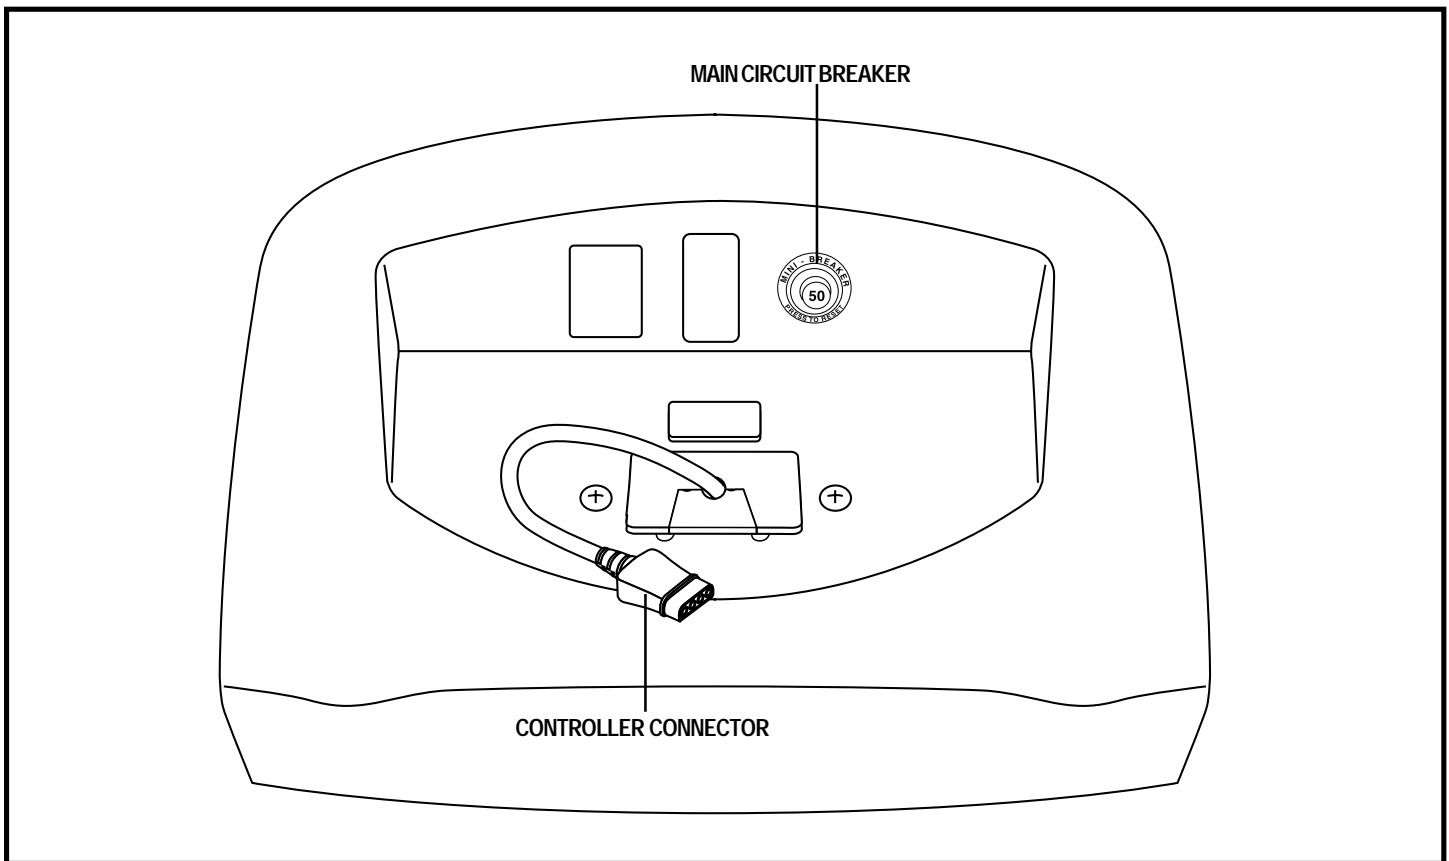

Figure 6. Jazzy Select 14 Series Electronic Components
The electrical components are located inside the power base. The main circuit breaker and the controller connector are located on the electronics tray. See figure 6.
4. Plug the controller connector into the power base. See figure 6.
3. Disconnect the controller connector from the power base. See figure 6.